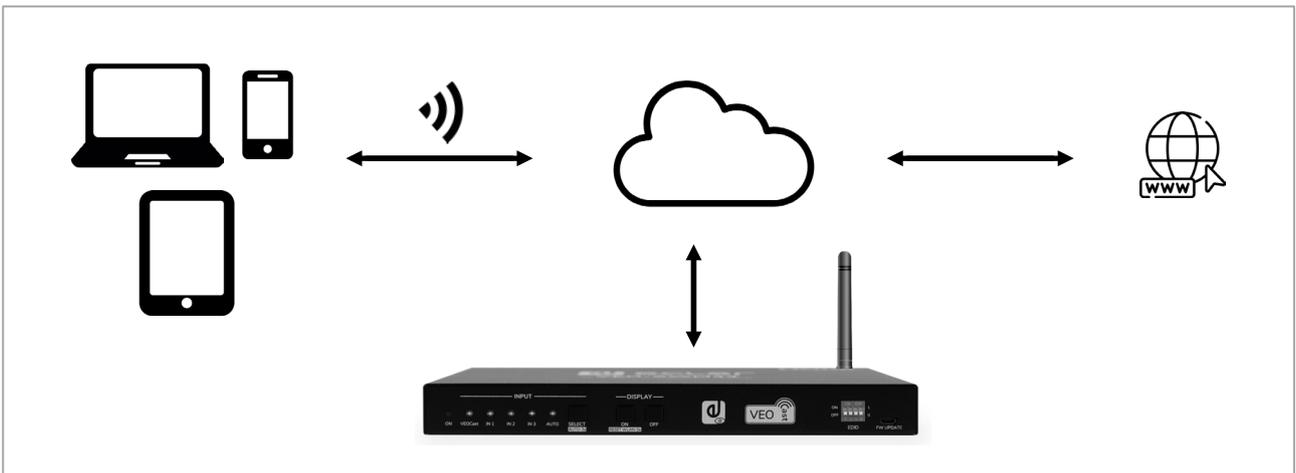

Figure 7
- **Connect the source device and VEO-SWM44 to the same network:** in this scenario, if both the source device and VEO-SWM44 are connected to the same network, the source device will be able to share content with VEO-SWM44 wirelessly and browse the internet in case that this network has access to it (Figure 7).